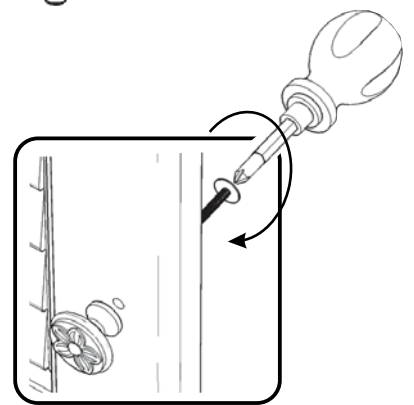

Figure 8
Attach Pull Handles to Doors (U) and (V) with Machine Screws. (See Figure 8)